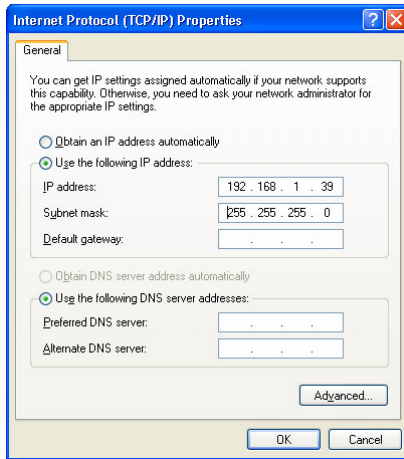

Figure 54: Internet Protocol (TCP/IP) Properties Window
6. Select Use the following IP Address, and fill in the details as shown in Figure 54.